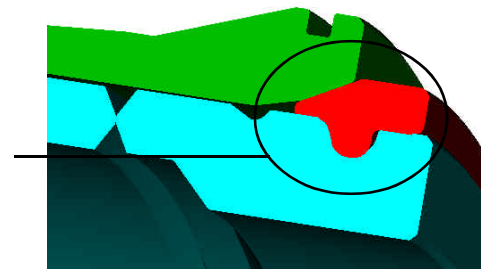

FIGURE 5
**Step 6.** Check the fitment of the lock ring to ensure that it is correct (See figure 5).